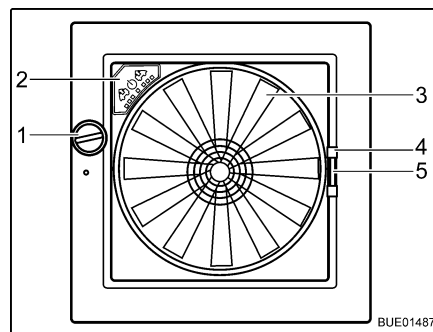

Fig. 35 Omni-Vent skylight
Opening: ■ Turn the knob (Fig. 35,1) until the desired opening angle is reached.
Closing: ■ Turn the knob (Fig. 35,1) until the skylight is fully closed.
Closing: ■ Using the handle (Fig. 35,4) pull the insect screen across to the other side of the frame.
- Press together the handle (Fig. 35,5) of the shade.
Fan If the skylight is open, the interior can be vented and aerated with the 6-speed fan (Fig. 35,3). The fan is operated via the operating panel (Fig. 35,2).